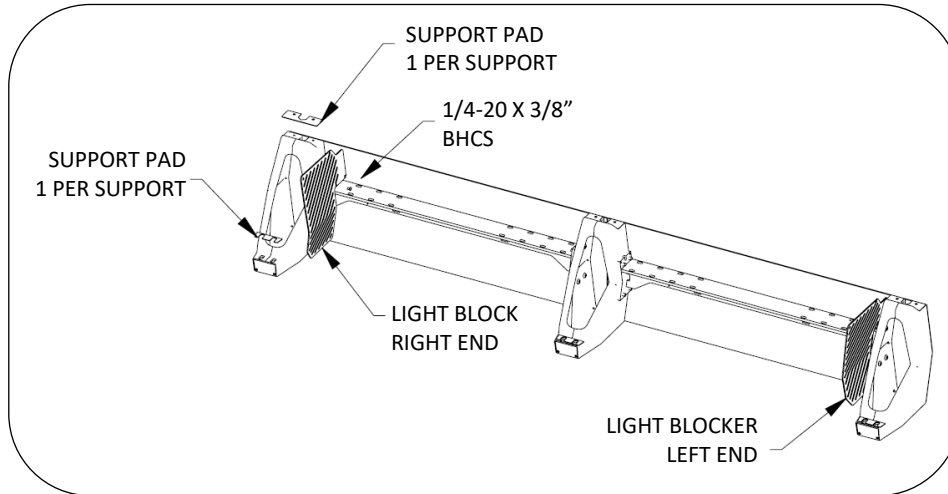

Fig. 6
6. Install light blockers on inside of end supports, see Fig. 6.
10. Apply VHB pads on each support, in location shown in Fig. 6.